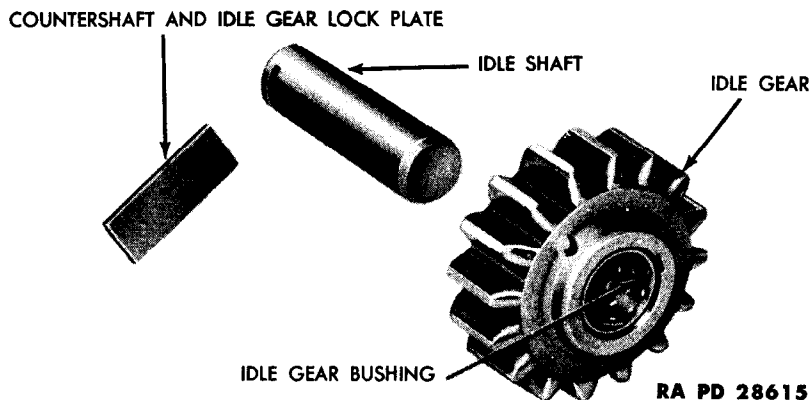

Figure 15 — Idle Gear Assembly — Exploded View
(7) **IDLE GEAR** (fig. 15).
a. **Install Idle Gear.** Hold the idle gear (fig. 15) in place in the case with the cone end of the hub toward the front, and push the idle gear shaft into the case.